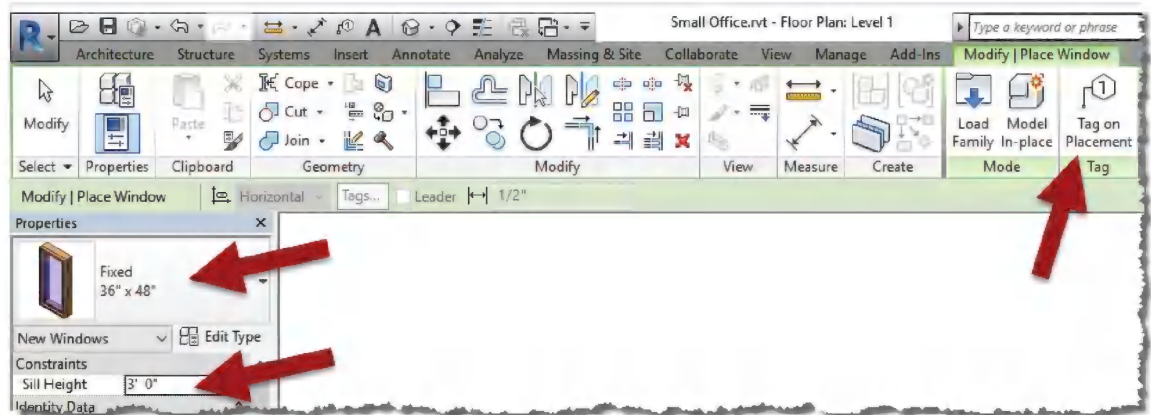

FIGURE 2-3.1 Ribbon and Options Bar: Window tool active
3. With the *Window* tool active, do the following (Figure 2-3.1):